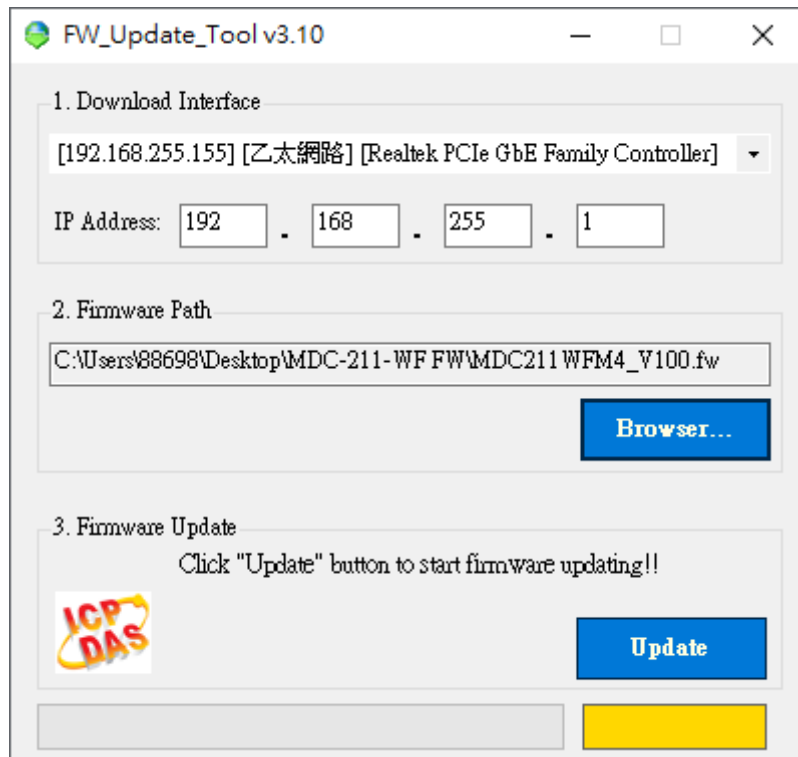

Figure 5.3 FW_Update_Tool firmware update steps
- (2) Short the FW with GND of MDC-211-WF and turn on the power. When the six LEDs of MDC-211-WF turn blinking alternately, the MDC-211-WF is successfully entered the firmware updating mode.
(3) Execute "FW_Update_Tool.exe" with the administrator privileges (👤) and follow the steps as Figure 5.3: